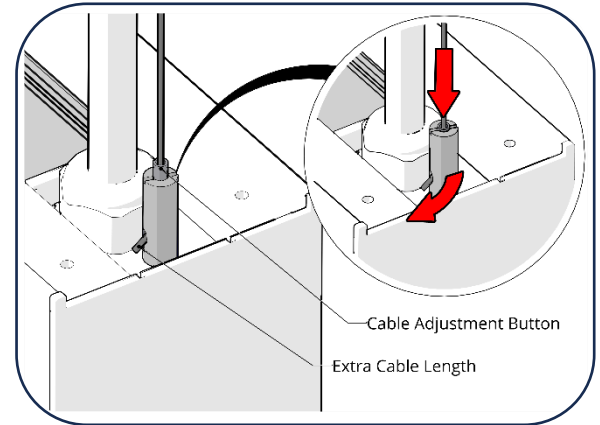

Figure A1
1. Depress the small button on the Mounting Cable, this will release the aircraft cable. [Figure A1]
2. Adjust the cable to the desired length. [Figure A1]